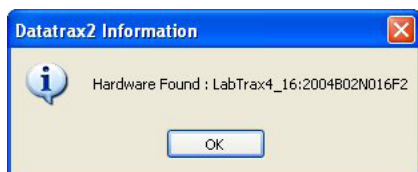
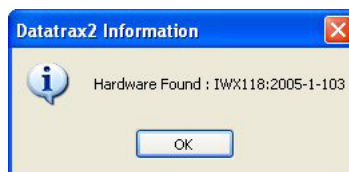
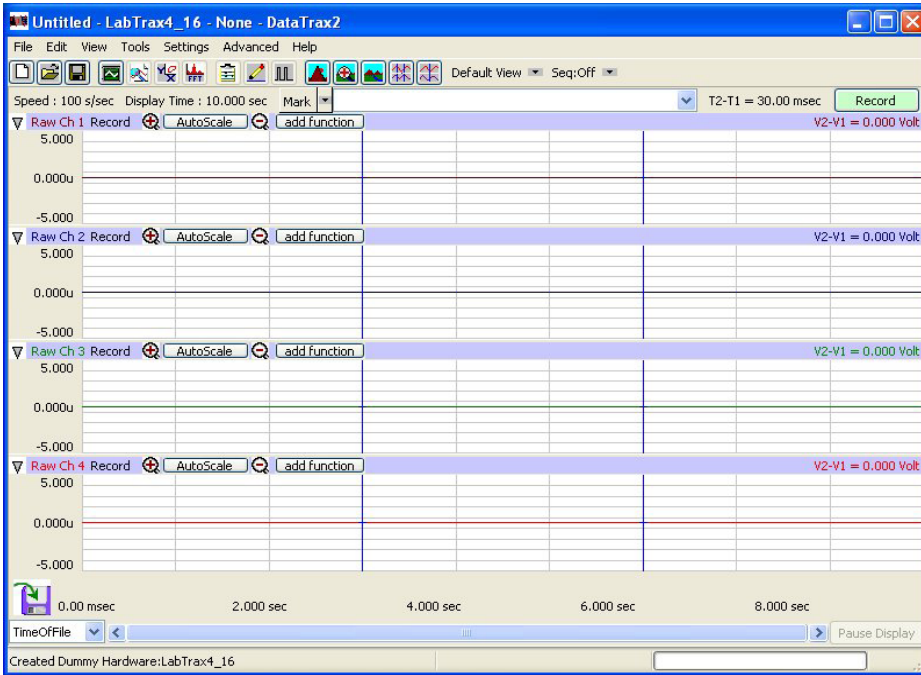

Fig. 32—(Left) LabTrax 4_16 hardware was found
Fig. 33—(Right) WPI-118 hardware was found
Fig. 34—Main LabScribe window
- An information box appears indicating the hardware that was found. For example, Fig. 32 shows a LabTrax 4_16, and Fig. 33 shows a WPI-118. The default LabScribe main window appears (Fig. 34).